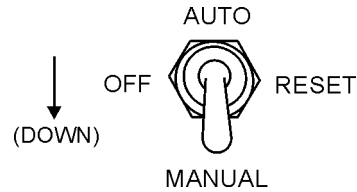

Figure 26. Off/Manual/Auto Switch (Manual)
7. Place the Off/Manual/Auto switch (Figure 26) in the **MANUAL** position (down). Observe that the engine begins to crank.